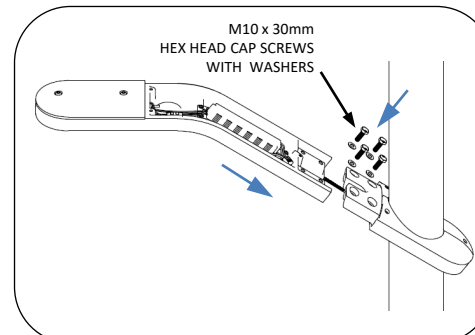

Fig. 11 – Attach intermediate mount luminaire
4. Attach luminaire to mounting bracket using (4) M10 x 30mm hex head bolts and 3/8" washers. Ensure wires are routed through the relief in the luminaire housing and are not pinched. See Fig. 11.